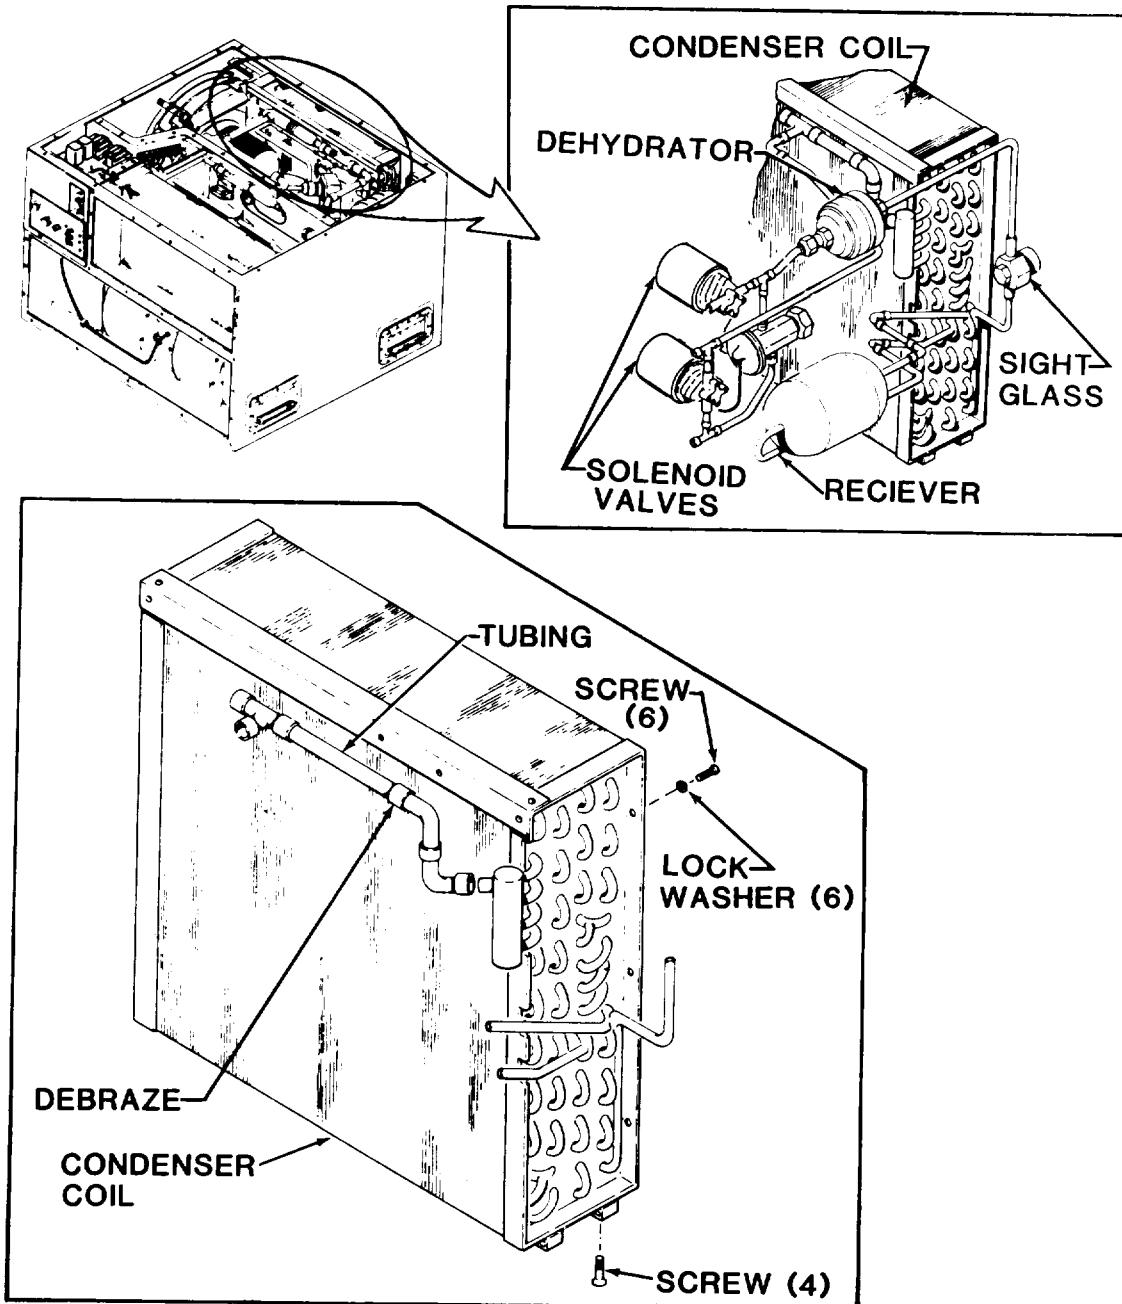

Figure 5-18. Condenser Coil
a. Removal. (See fig. 5-18.)
(1) Disconnect power at power source.